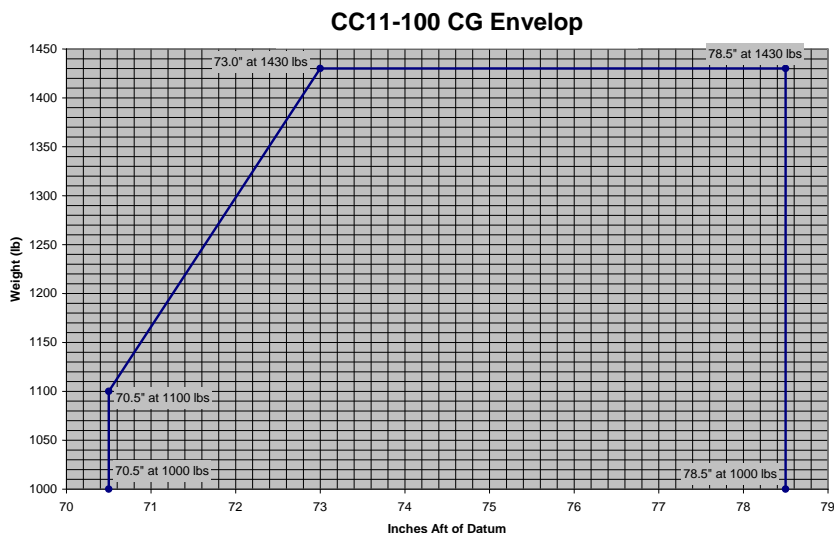

Figure 9-1-2 - Weight and Balance Envelope with Floats
- 6. Plot the point on Figure 9-1-2. If it is within the weight and balance envelope, the aircraft is within the approved envelope.